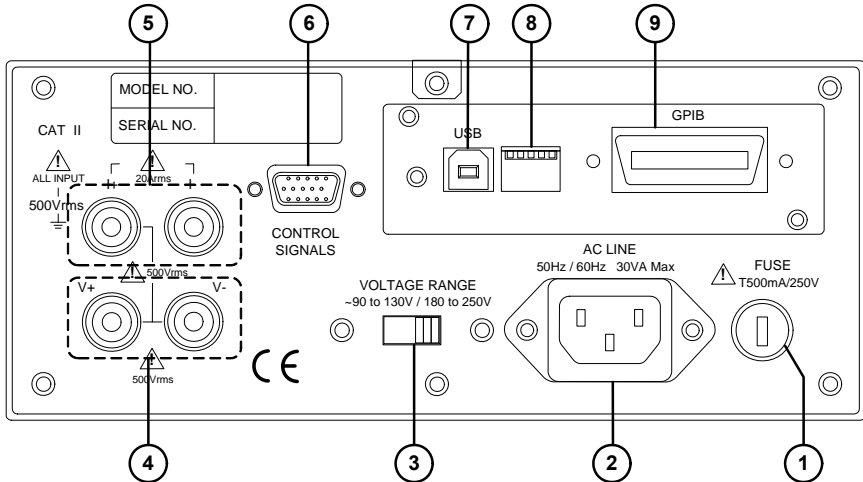

Figure 2-3 Rear Panel of 66201/66202 Digital Power Meter
Figure 2-3 shows the rear panel of 66201/66202 digital power meter with parts described from item (1) to (9) as listed below.